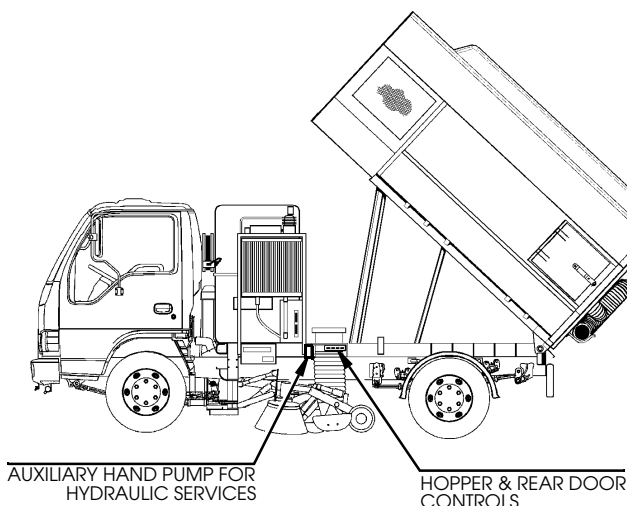

Fig. 6 - Location of External Controls
- 17. Rear Door Switch.** This switch is used, in conjunction with the Safety Interlock, to open the rear door of the hopper. The switch is detented to the Off position. Pressing the **Top** of the switch OPENS the Rear Door. The door is CLOSED by means of an external switch mounted on the side of the machine (Refer to Fig. 6).
In the event of a hydraulic system failure, use the auxiliary hand-pump fitted on the side of the vehicle, to raise the hopper manually (Refer to Fig. 6). The hopper is lowered by turning the pressure-release knob on the pump body.
2. From inside the cab, press the Safety Interlock and Door Switches simultaneously (Refer to Fig. 4(c)). It is also possible to open the rear door using the externally mounted controls (Refer to Fig. 6).
3. For safety reasons, the rear door cannot be closed using the in-cab controls. To close the door, press and hold down the externally mounted door closing switch on the nearside of the vehicle (Refer to Fig. 6).